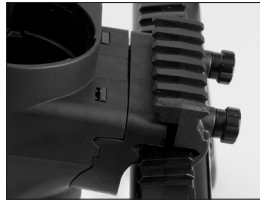

Fig. 3.4
- Install the Rip-Clip onto the marker's Picatinny rail (Fig. 3.4).